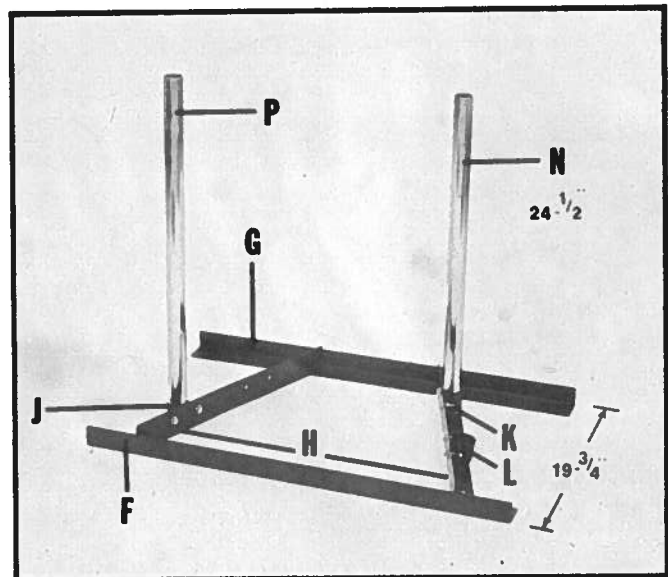

Fig. 4
4. Assemble front base angle (F), rear base angle (G) and two side base angles (H) as shown in Fig. 4, using eight 5/16-18 X 1" flat head screws, flat washers, lockwashers and hex nuts. Do not tighten the hex nuts at this time. It is important that there is a distance of 19-3/4" maintained between the horizontal base angles (F) and (G) Fig. 4. This measurement must be taken from the outside of the angles. Once the base angles are properly spaced, tighten the eight hex nuts.
5. Attach three 1-3/8" clamps, (J), (K) and (L) Fig. 4 to the side base angles (H) as shown using six 5/16-18 X 1" hex screws, flat washers, lockwashers and hex nuts. Place the flat washers under the screw heads and the lockwashers under the hex nuts.
6. Assemble the two support legs for the machine and table in the positions shown in Fig. 4. The shorter leg (N) measuring 24-1/2" must be inserted into clamp (K) on the side base angle. The longer leg (P) must be inserted into clamp (J) of the side base angle.